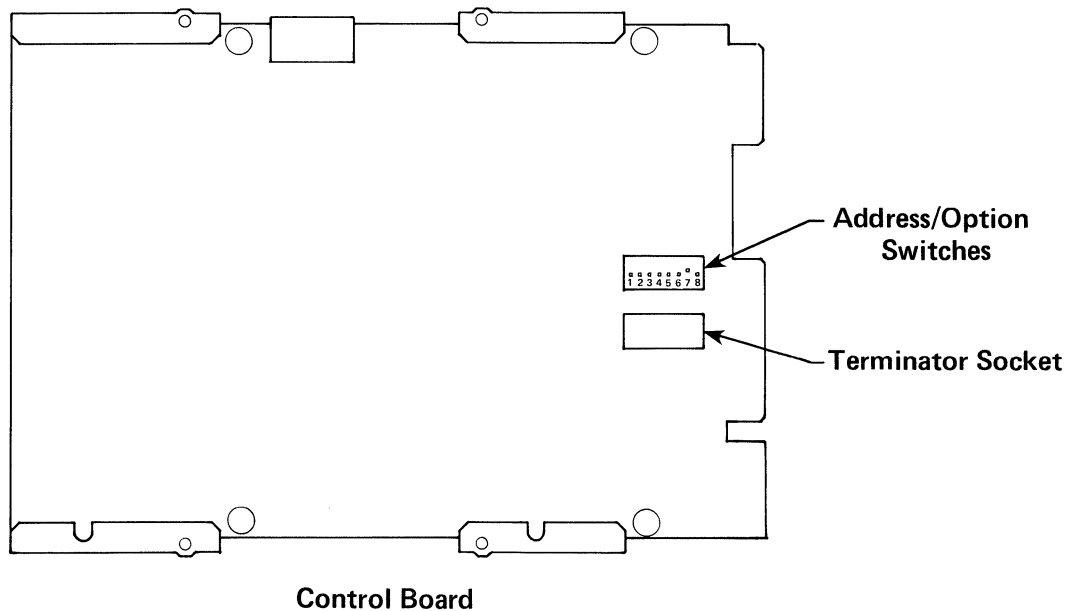

Figure 1-12. Hard Disk Drive
In addition to the hard disk controller board located in the CS 9000, each hard disk unit has its own attached control "card". Figure 1-12 shows the location of the terminator socket on this attached control card. To gain access to this control card you must remove the drive from its cabinet; to do this:
2. Slide the hard disk drive out until you can locate the three power and signal connectors and the grounding wire. (Refer to Figure 1-12 for the location of these connectors on the control board.)
The last step in hard disk configuration is the setting of address/option switches to identify the hard disk units to the operating system as "Hard Disk Drive 4", "Hard Disk Drive 5", etc. and to select certain options for hard disk operation such as "Radial" or "Half Step". (These options are explained below.) Figure 1-12 shows the location of the bank of eight address/option switches on the hard disk control card. To set an option or designate a drive, you must turn the appropriate switch ON. The switches have the following meanings.